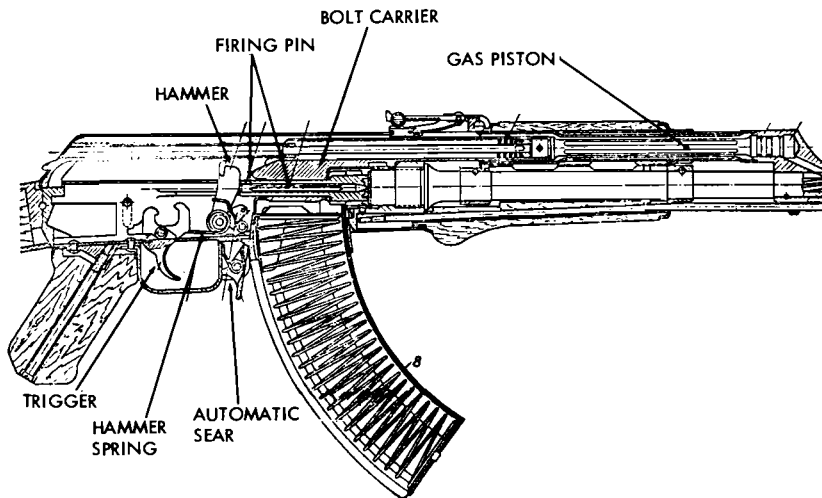

Figure 33. AK-47 assault rifle, section.
b. When the AK-47 is loaded and cocked, finger pressure on the trigger causes the twin lugs on the top of the trigger (fig. 33) to disengage from the hammer; the hammer, under pressure of the hammer spring, swings forward and fires the weapon. The bullet is driven through the barrel by the propellant gases. After the bullet passes the gas port, some of the gases are tapped off and directed against the piston extending from the bolt carrier.
c. The propellant gases drive the piston and the bolt carrier (fig. 33) rearward, compressing the driving spring. After one-third of an inch of free travel, a cam in the bolt carrier contacts the cam stud on the bolt; further travel rotates the bolt 35° and unlocks it from the receiver. The